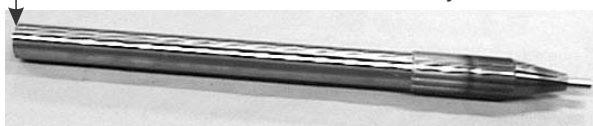

Figure 9-37. Prepare Tail Assembly and Body Anvil for Assembly
and the Body/Anvil (1). See Figure 9-37.
4. With the exception of the End Cap (16) and Whip Hose (14), lightly coat the tail assembly components with hydraulic fluid. Refer to Figure 9-37.